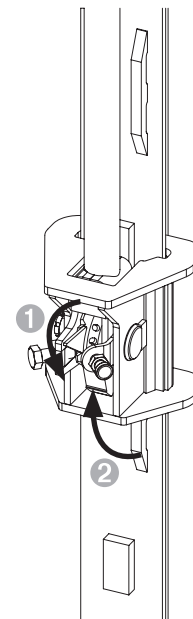

Fig. D2.04
2. Set switch units in all the climbing heads to "Climb platform". (Fig. D2.04)